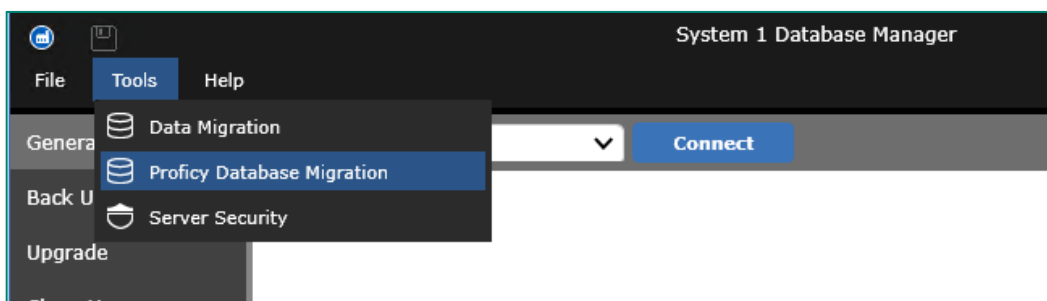

Figure 6: Proficy Database Migration option in System 1 Database Manager Tools
- Select Proficy Database Migration from Tools menu (Figure 6)